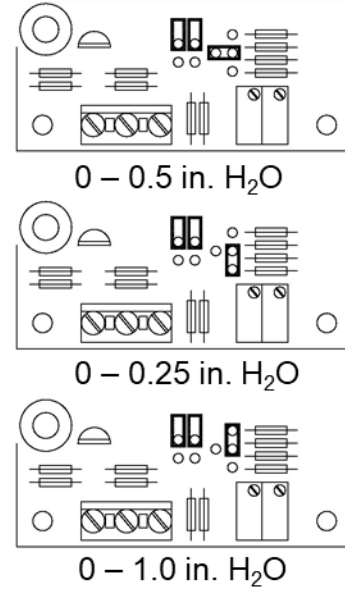

Figure 7: Pressure Transducer Jumpers
- Verify that the jumpers on the pressure transducer are installed correctly, per Figure 7. The default pressure transducer output range is 0 to 0.5 in. H₂O.